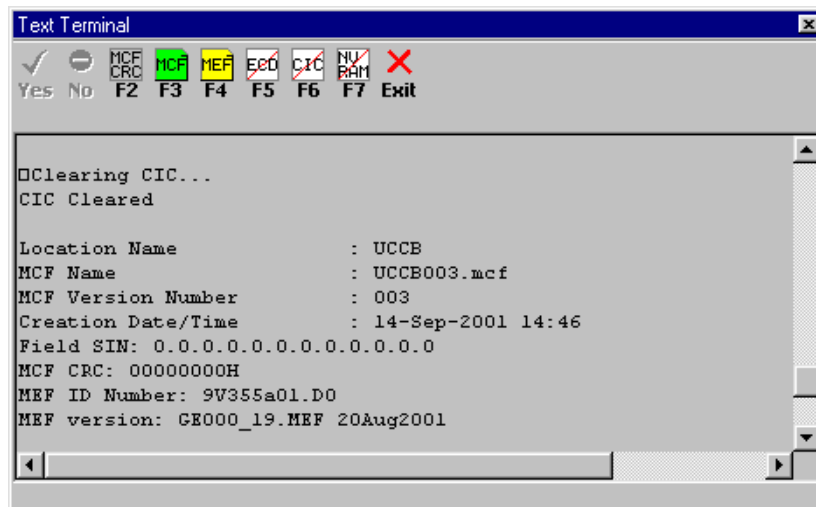

Figure 3-36
5. The system responds by displaying “Clearing CIC” (refer to figure 3-36), as the CPU/CPU2 module in the GEO™ unit sweeps an asterisk back and forth across the 4-character display.
6. When the CIC has been erased, the message “CIC Cleared” (refer to figure 3-36) is displayed on the Text Terminal screen as the 4-character display on the GEO unit CPU/CPU2 module reads “BOOT”.